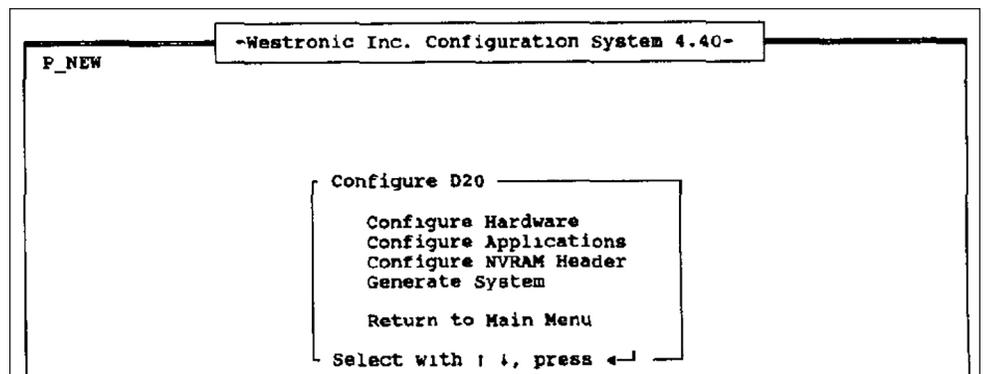

Figure 20. The *Configure D20* screen.
STEP 15. Using the arrow keys, select the **Return to previous menu** option and press the <ENTER> key. The *Configure D20* screen will open. See Figure 20.